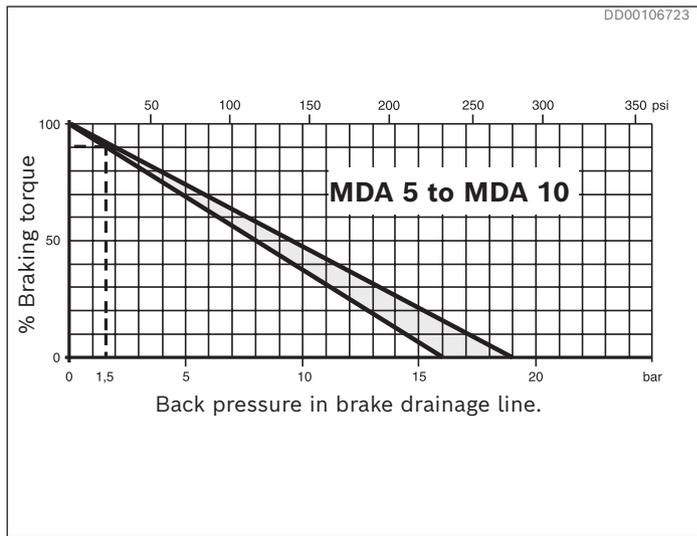
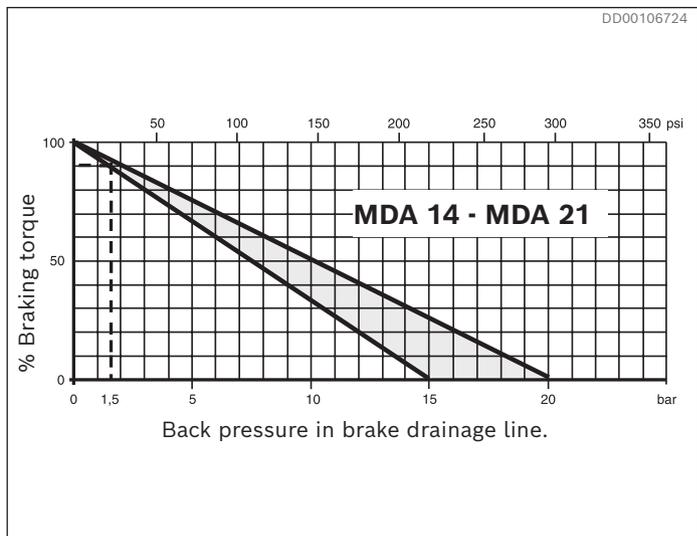

Fig. 7: MDA 5 to MDA 10
Fig. 8: MDA 14 and MDA 21
**Note:** Flushing of brake can build up back pressure which results in reduced braking torque, please see *Fig. 7 and Fig. 8*
**Table 3: Brake data (US)**